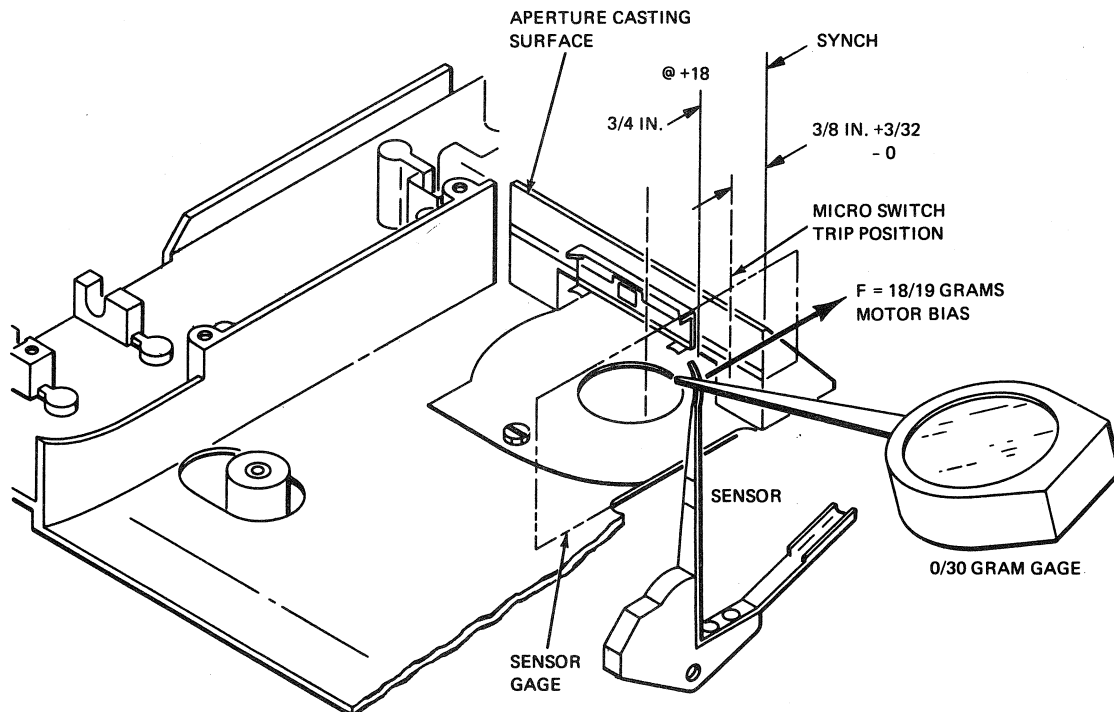

Figure 5-7. Sensor Micro Switch
If this adjustment is required it is suggested that the existing sensor bracket assembly (P/N 15-A180) be replaced with type used in current models. (S/N J003040 and up). Current type can be identified by the included angle on the sensor cam surface (figure 4, sheet 2, item 53) which is reduced to 13 degrees from 20 degrees (included angle of radial surface referenced to pivot). See figure 5-7, 5-8.
The force of the sensor return spring (figure 4, sheet 2, item 56) should be 5 to 8 grams. When the sensor is in the synch position as shown in figure 5-7.
- D. Place tip of 30 gram scale against arc of sensor arm (figure 4, sheet 2, item 53). With 30 gram scale in place, depress "ON" lever to start projector (Note projector will remain on as long as pressure against sensor arm is maintained in central position.) (See figure 5-7)